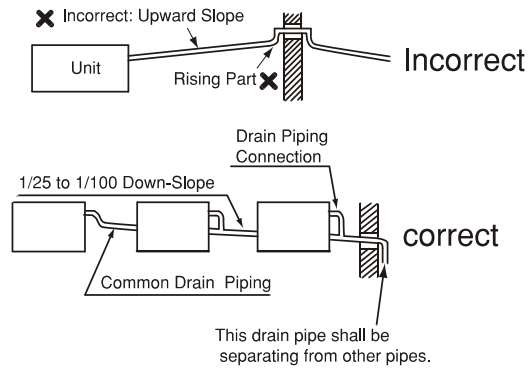

Fig. 6.1 Drain Piping
- (1) The position of the drain piping connection is shown in Fig. 6.1.
- (2) Prepare polyvinyl chloride pipe with a 1-1/4in. (32mm) outer diameter.
- (3) Fasten the tube to the drain hose with the adhesive agent and the filed-supplied clamp. The drain piping must be performed with a DOWN-SLOPE pitch of 1/25 to 1/100.
- (4) Insulate the drain pipe after connecting the drain hose.